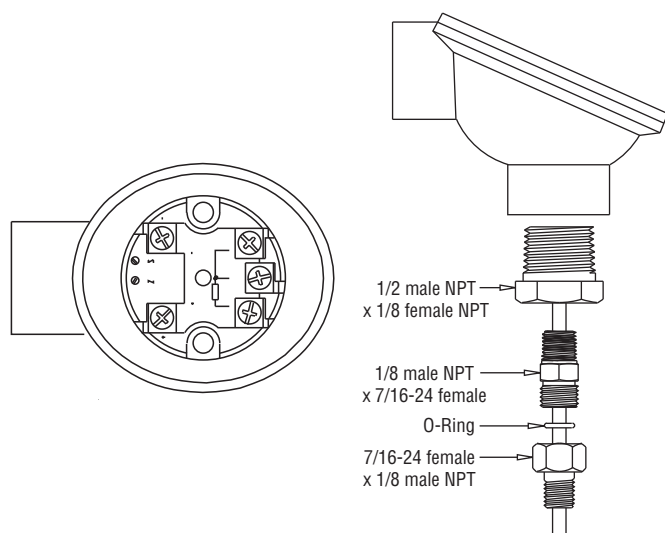

Figure 1
2. Place o-ring inside 7/16-24 female fitting and loosely assemble it to the 7/16-24 male x 1/8" NPT adapter, then assemble to adapter noted in step #1 as shown in Figure 1.